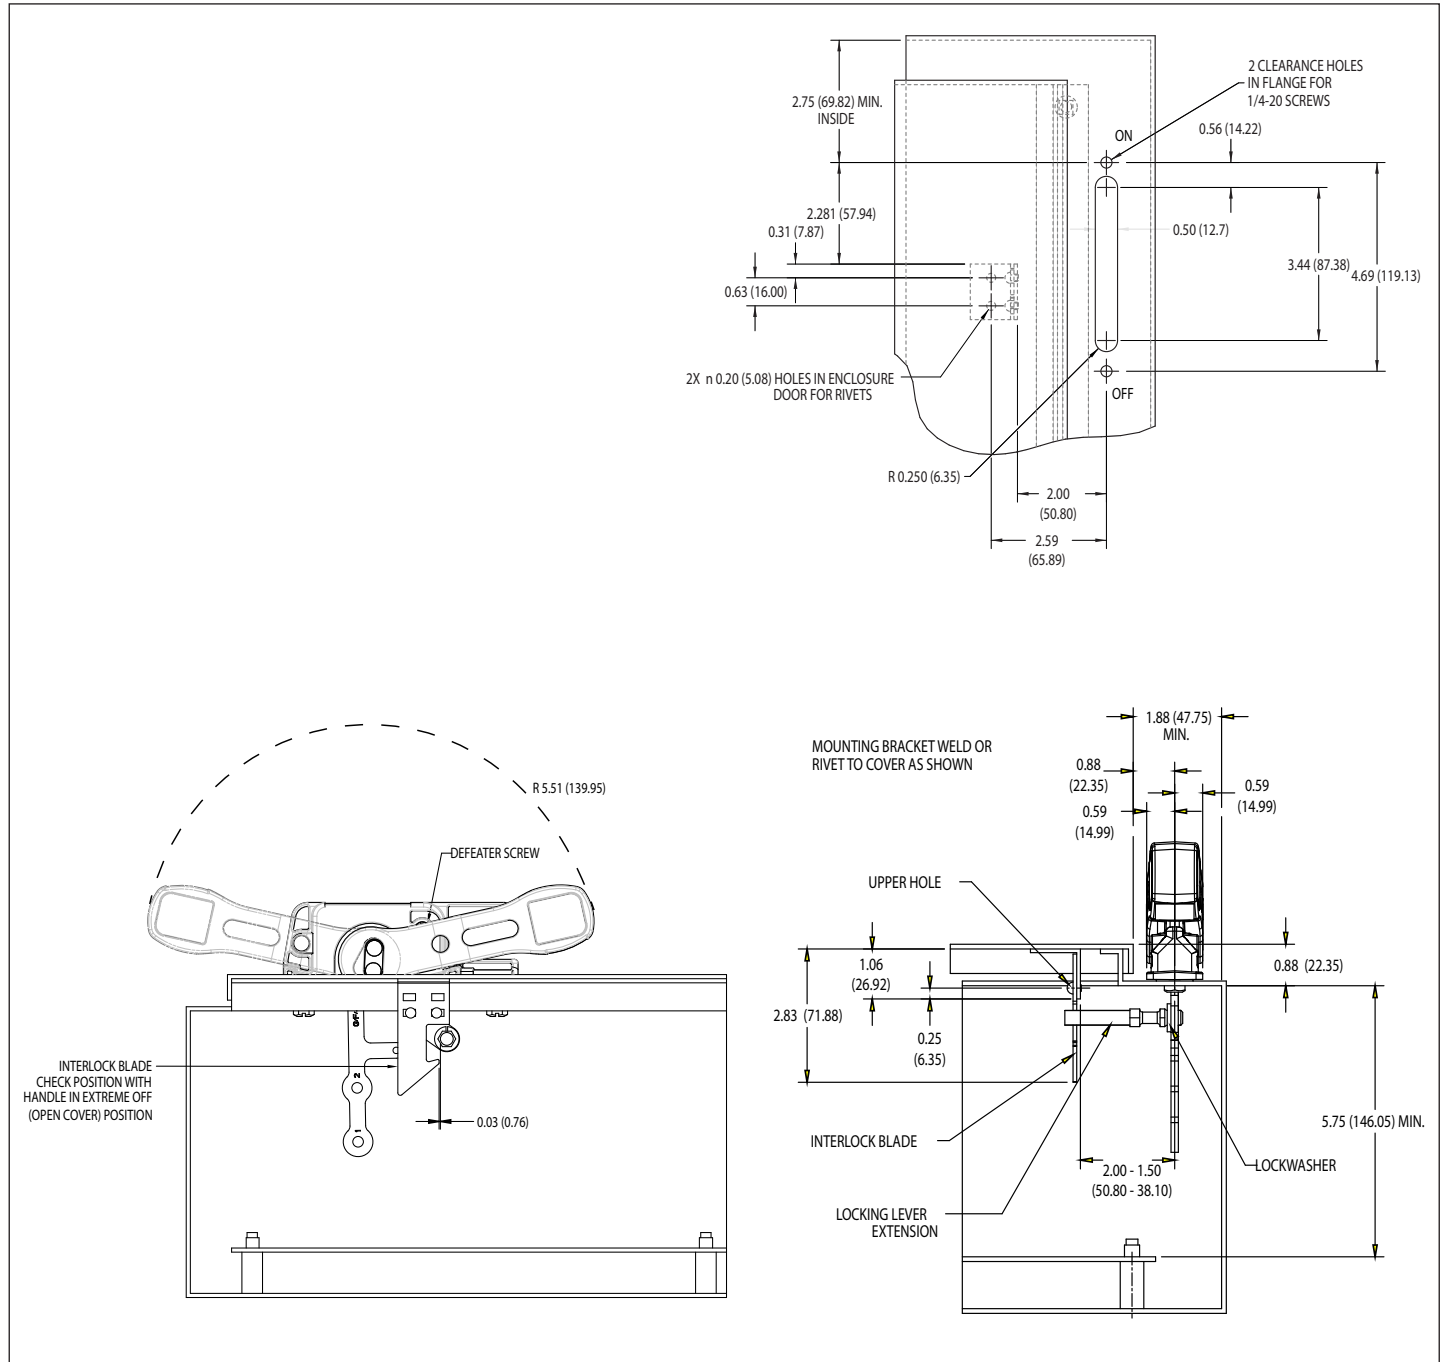

Figure 3. Flange Drilling Plans for Handle and Interlock Blade Mounting Dimensions.
4. Install the handle to the enclosure by removing the two screws and lock washers from the outer handle mechanism. Place the outer handle mechanism with attached gasket over the enclosure cutout (for cutout dimensions, refer to Figure 3). Insert the top 0.250-20 outer handle mechanism mounting screw and lock washer through the enclosure and thread into the outer handle mechanism for a few turns, but not all the way.